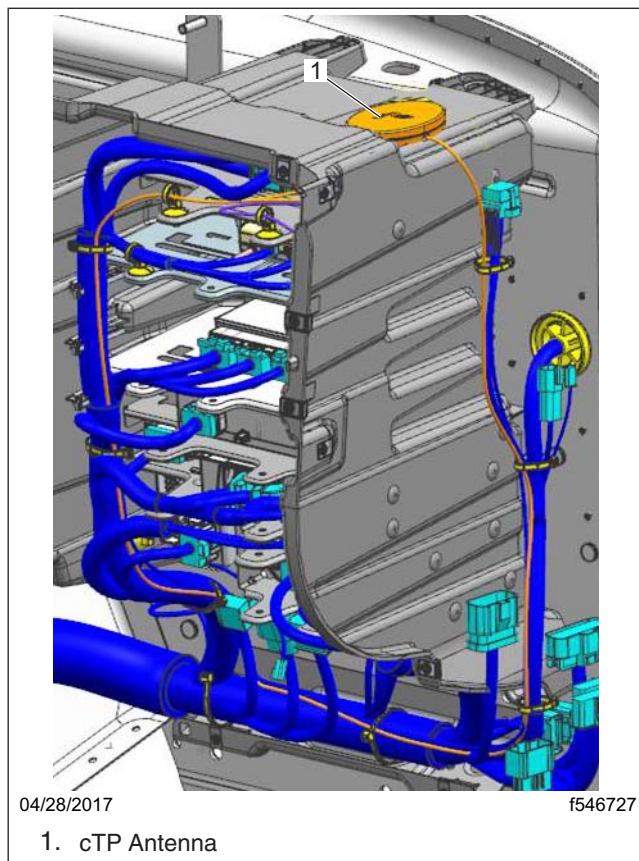

Fig. 3, Electronics Bay
4. Remove any tie straps that secure the antenna wire to the electronics bay harnesses. See Fig. 3.